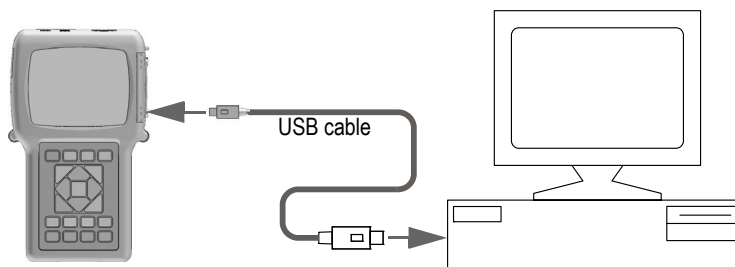

Figure 14-1 Connecting the 38DL PLUS to a computer
8. Connect one end of a USB cable to the USB client connector under the I/O door of the 38DL PLUS, and the other end to a USB port of the computer (see Figure 14-1 on page 237).